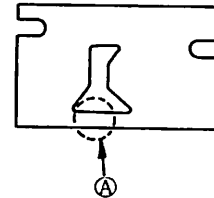

Fig. 24
C. If there is any burr or scratch on the shuttle surface race spring at point A, it may cut or break the bobbin thread. Make part A smooth by the use of abrasives. (Fig. 24)